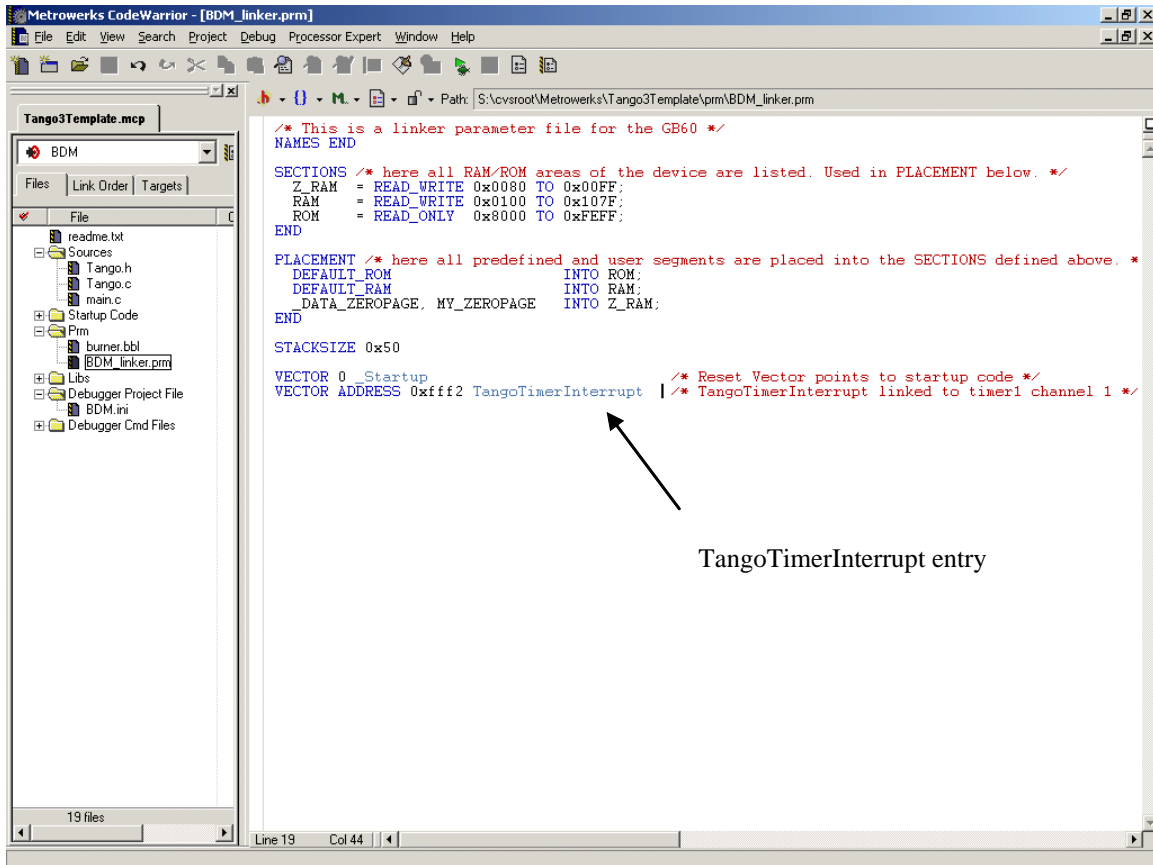

Figure 14. Project Parameter File
**Figure 14** is a screenshot of the project parameter file showing how to include the TangoTimerInterrupt function call. In this example, it is linked to timer 1, channel 0.